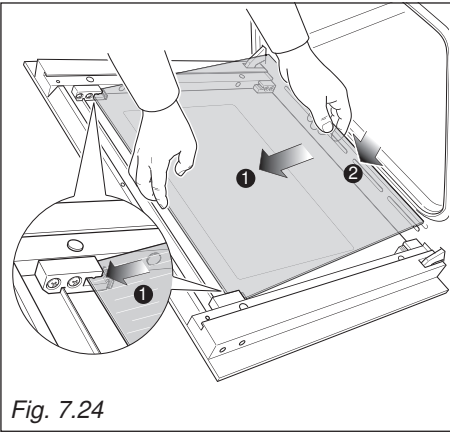
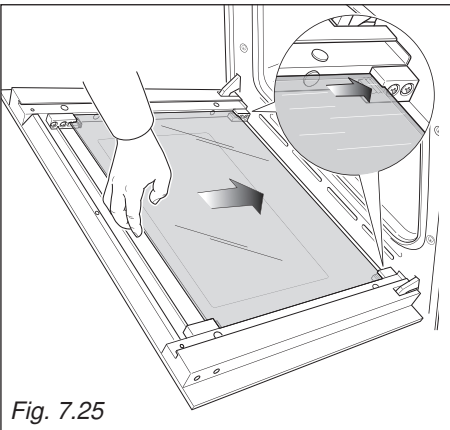

Fig. 7.24
Fig. 7.25
- Gently insert the top edge of the pane into the top clamps (arrow 1 in fig. 7.24), then lower the pane and insert the bottom edge into the bottom clamps (arrow 2 in fig. 7.24); and then slide the pane into position (fig. 7.25).